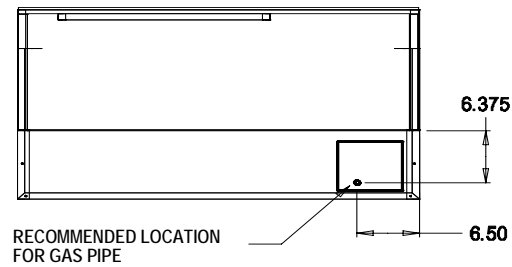

Figure 5
STEP 4 Connect gas supply line to the gas valve located in the lower right front of the unit, **See Figures 5 and 6.** A manual valve must be installer-supplied either inside or just outside of the wall sleeve as appropriate per local codes and/or ANSI-Z223.1 or CAN/CGA-B149. An 18-24 inch listed gas hose/flexible connector with ½ SAE female flare must be installer-supplied for connection to the appliance.